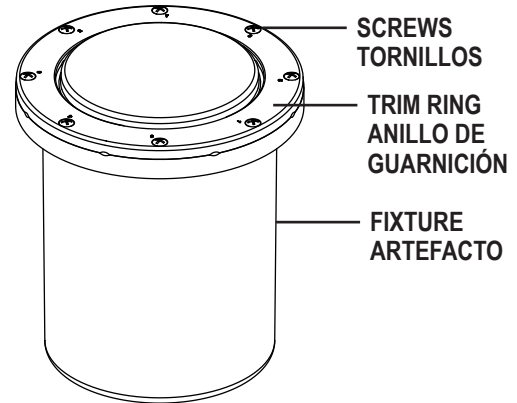

Fig. 1
- 2) Remove the (8) original cover screws from in-ground fixture. Remove and discard existing trim ring (see Fig. 1).